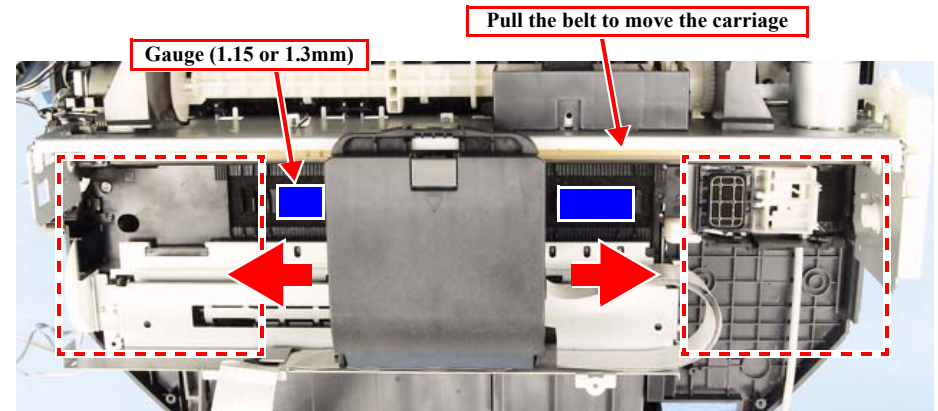

Figure 2-9. PG Adjustment 1
4. Move the carriage to the center of the platen, and place 1.15 mm thickness gauge on the left aligning its left edge with the second rib of the Front Paper Guide. And place another 1.15 mm thickness gauge on the right aligning its right edge with the rightmost rib of the Front Paper Guide. (Fig. 2-9)